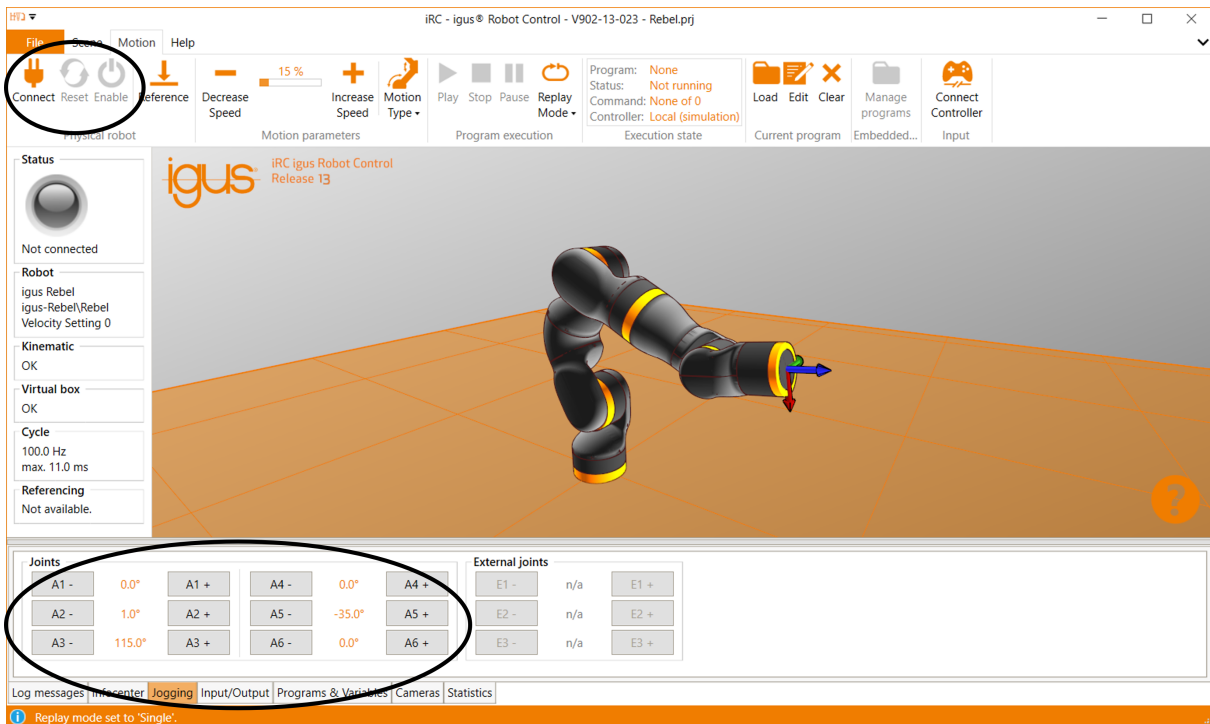

Figure 2: Jog Commands
3. You can now activate the robot by pressing the following buttons in the given order (see also Fig. 2):
5. You can now move the robot's joints using the buttons on the "Jogging" tab (see Fig. 2).